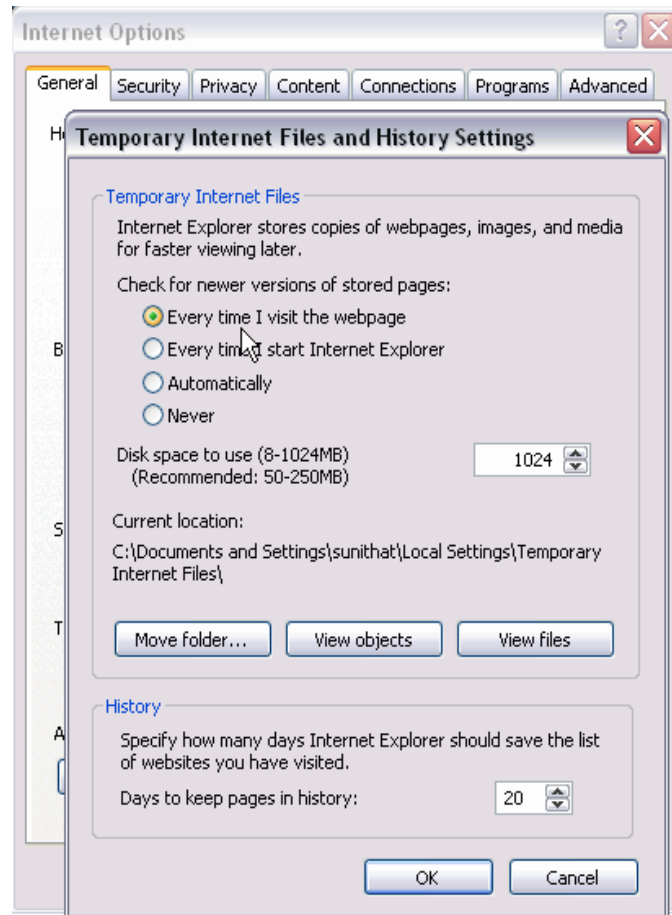

FIGURE 1 Configuring Internet Explorer
3. Choose **Every time I visit the webpage** under “Check for newer versions of stored pages:” as shown in Figure 1 on page 6.